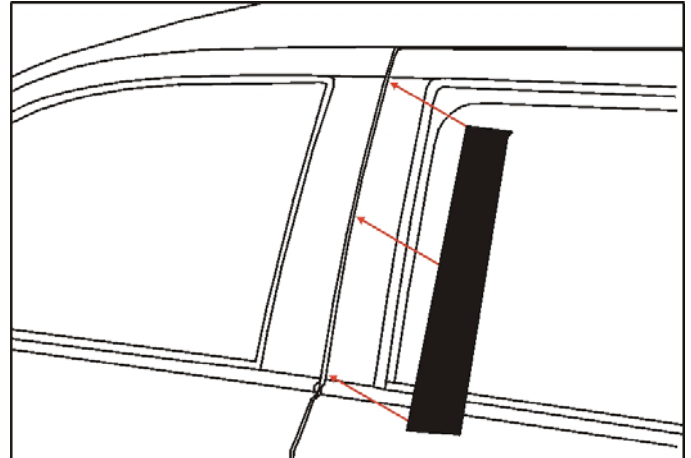

Fig. 3-1
- (a) Align edges of adjacent pieces to be flush with each other, creating a “single piece” appearance (0 mm gap). (Fig 3-1)